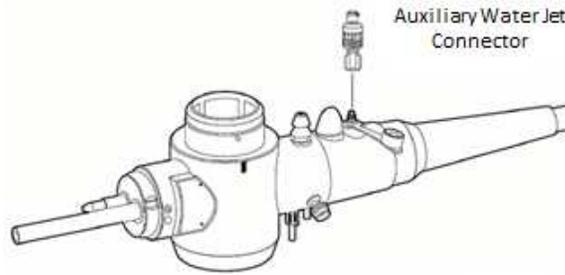

Figure 2
17. Attach the Auxiliary Water Jet Connector to the auxiliary water port by screwing it onto the port (See figure 2). When attaching the Auxiliary Water Jet Connector to the port, take care to ensure that the Auxiliary Water Jet Connector is aligned to the port and avoid excessive tightening. Misalignment or excessive tightening of the Auxiliary Water Jet Connector could lead to the possibility of leakage. Once the Auxiliary Water Jet Connector is attached to the auxiliary port of the endoscope, attach the irrigation tubing to the Auxiliary Water Jet Connector.